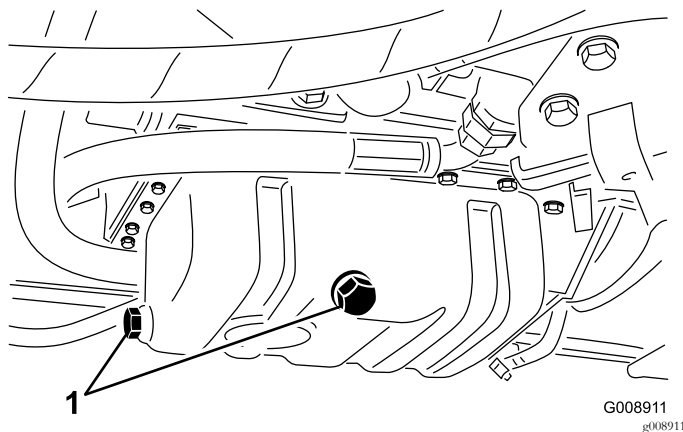

Figure 35
- Remove the drain plug (Figure 35) and let the oil flow into a drain pan.